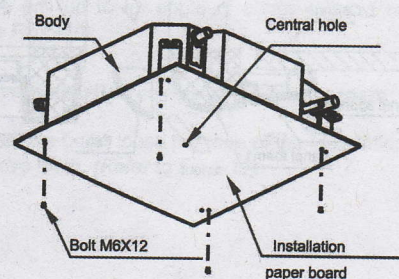

Fig. 5-8
- After installing the body, please fasten the installation paper board onto the air conditioner with bolts(M6X12) to determine in advance the sizes and positions of the hole opening on ceiling. (Refer to Fig.5-8)